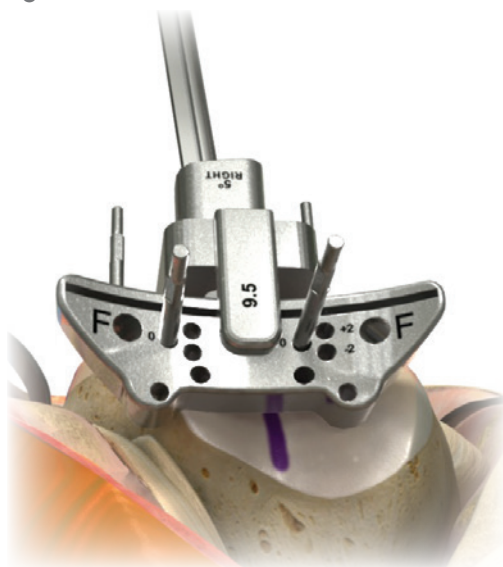

Figure 3
5. Use trocar pins to secure the distal femoral cutting block to the anterior femur through the two holes marked “0” (Figure 3).